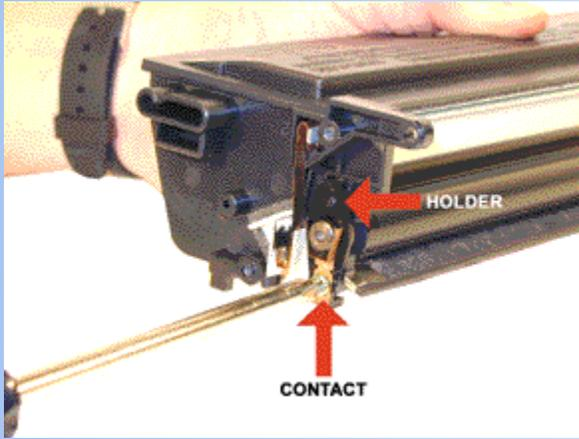

FIGURE 24
18. Remove the screw, holder and contact from the right side of the developer roller. Be careful not to loose the contacts! See Figure 24